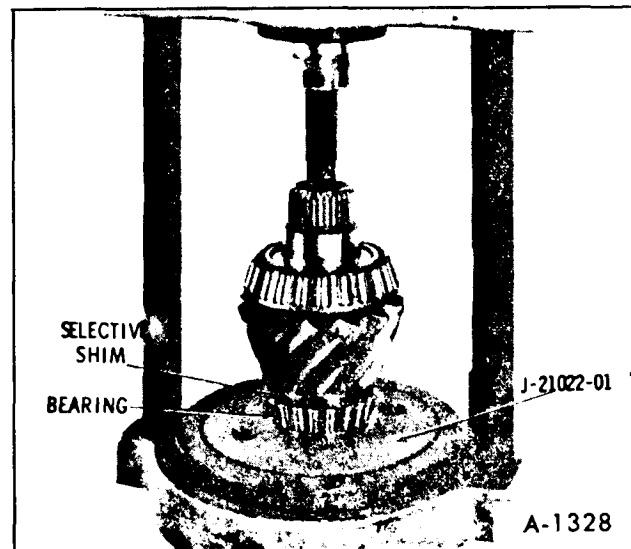

Figure 40-Installing Pinion Front Bearing And Shim
13. Position correct shim on drive pinion and install the drive pinion front bearing as shown in Figure 40.